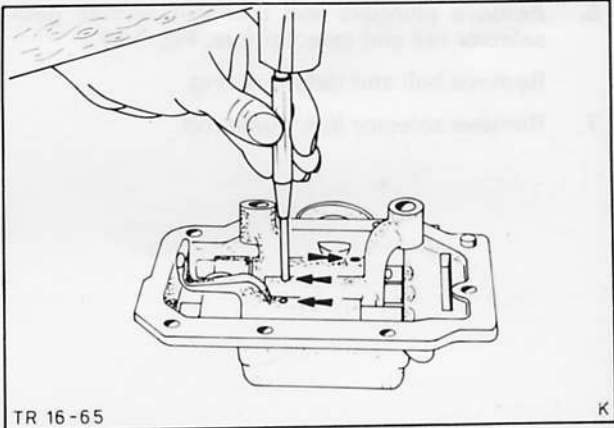

Fig. 116. Remove locking pins
3. Drive all locking pins from selector rails, Fig. 116.